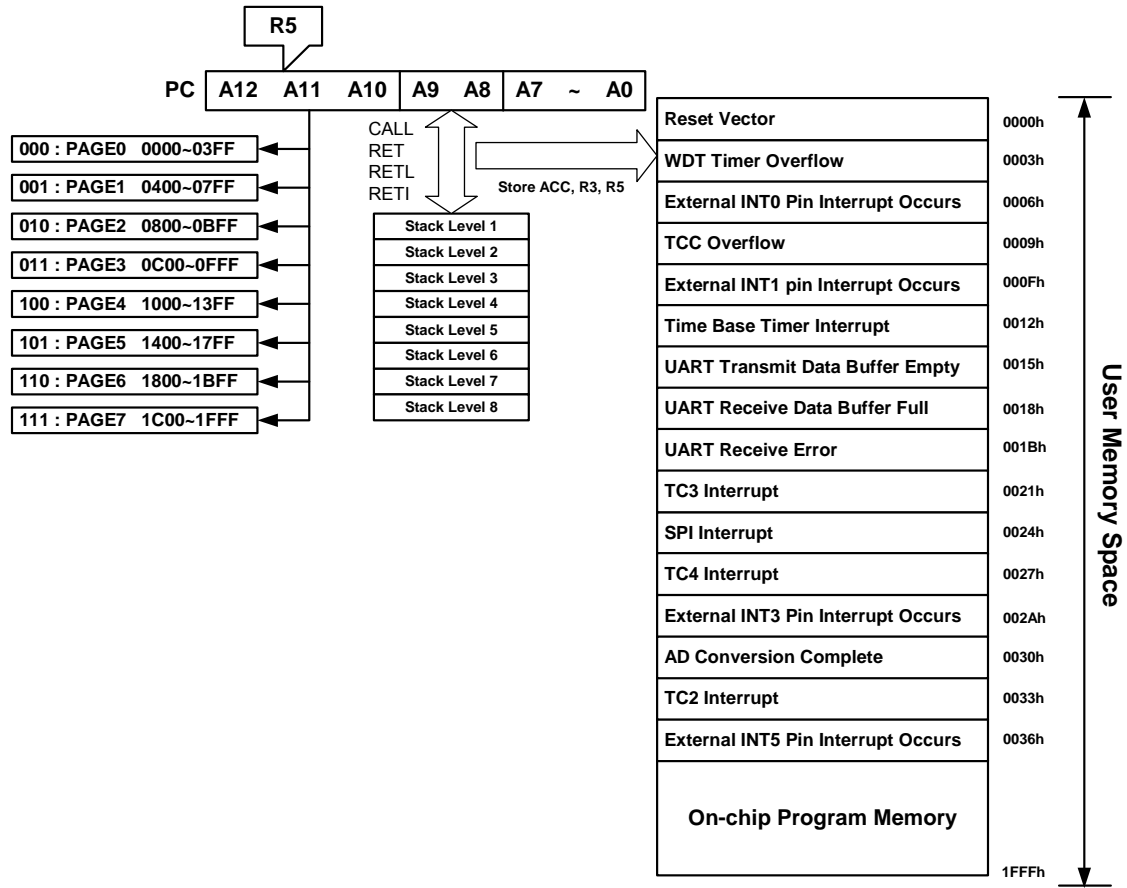

Fig. 5-3 Program Counter Organization
- Depending on the device type, R2 and hardware stack are 10-bit wide. The structure is depicted in Fig.5-3.